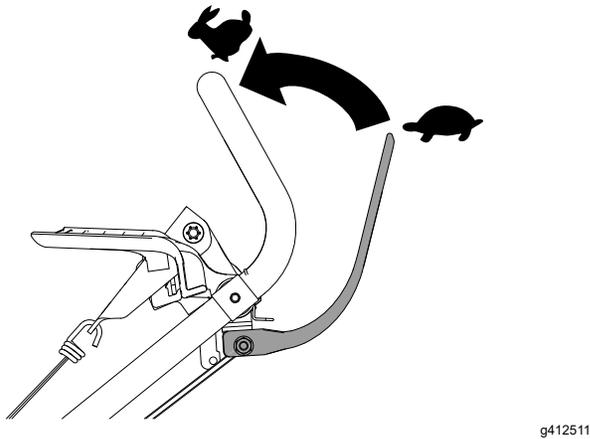

Figure 18
3. To operate the self-propel drive, squeeze the self-propel-drive bar (Figure 18).